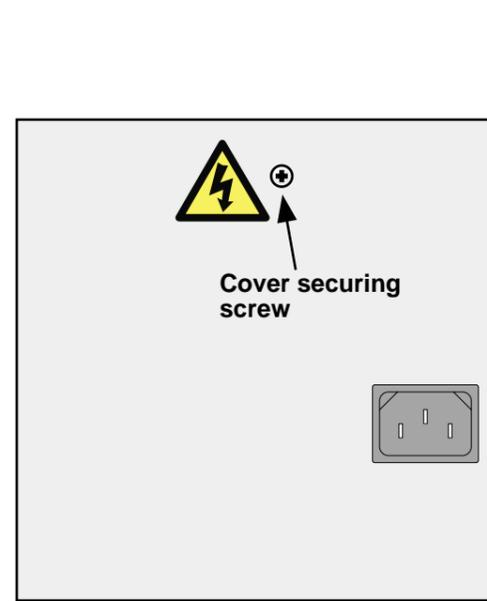

Figure 1 Retaining screw location
- 2 At the rear of the recorder remove the terminal cover securing screw (figure 1), taking care to retain it for use in re-assembly.